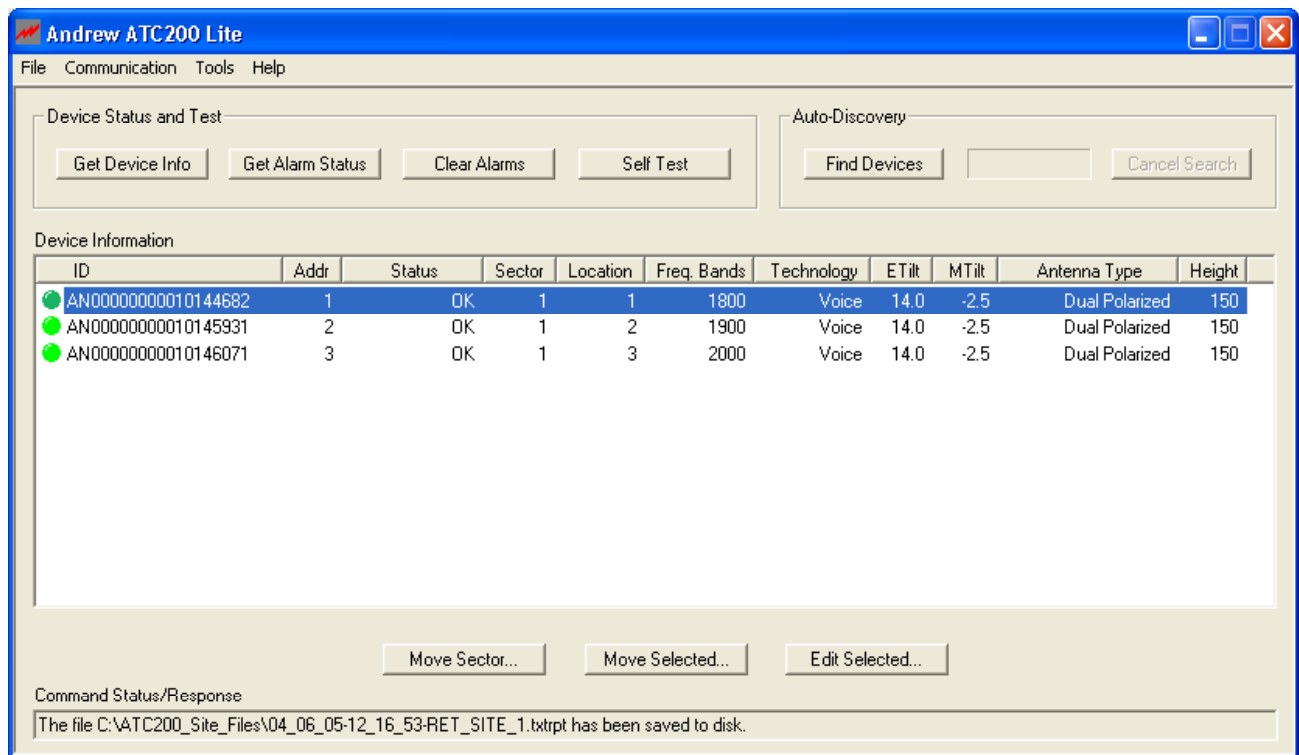

Figure 9-1. Device Status and Test Options.
The ATC200-Lite program allows users to obtain device information (includes hardware and software version), get alarm status or clear alarms for any known device, or run a movement self-test on any addressed device. These options are displayed as four buttons located in the 'Device Status and Test' section of the main screen (Figure 9-1).
1. To query a device for its alarm status, first click on the device in the 'Device Information' list (Figure 9-1).
2. Now that the device has been selected, click 'Get Alarm Status' to retrieve the current alarm status for that device (Figure 9-1).
1. To perform a self test on a device, click on the device in the 'Device Information' list (Figure 9-1).
2. Click 'Self Test' to initiate movement (Figure 9-1).